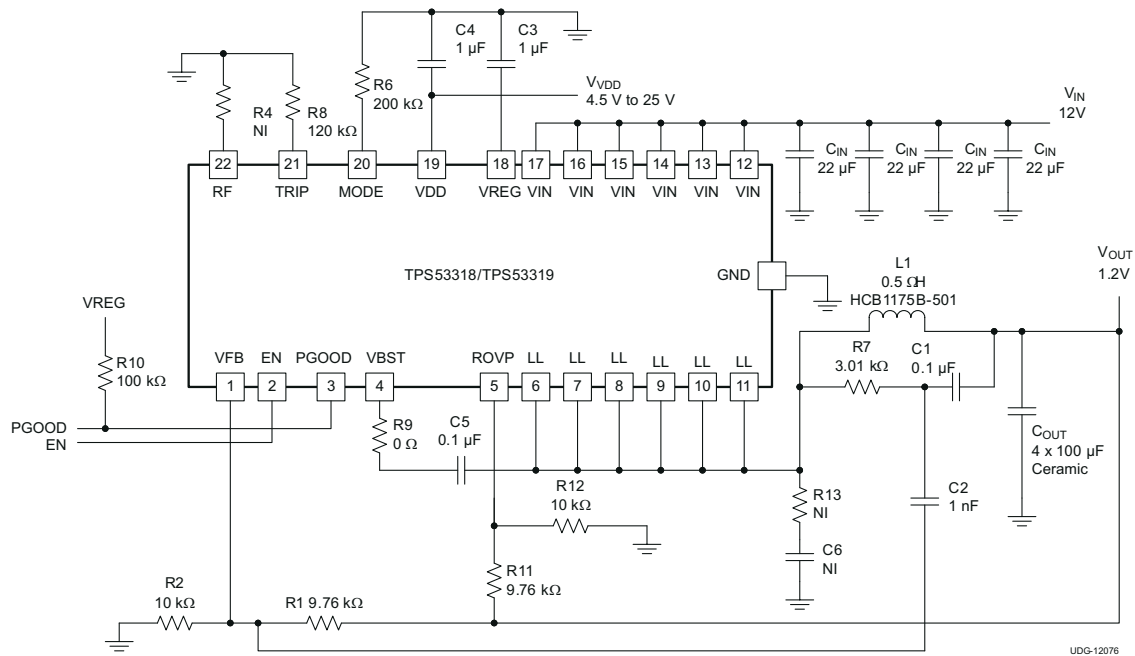

Figure 8-12. Typical Application Circuit, Redundant OVP Enabled
The redundant overvoltage level is programmed according to the output voltage setting, it is controlled by resistors R11 and R12 as shown in Figure 8-12. Connect resistor R11 between the ROVP pin and the output, and connect resistor R12 between the ROVP pin and GND. This design recommends that the value of resistor R11 match the value of resistor R1 (or slightly higher), and that the value of resistor R2 match the value of resistor R12.
- Connect the ripple injection V_{OUT} signal (V_{OUT} side of the C1 capacitor in Figure 8-12) from the terminal of ceramic output capacitor. Place the AC coupling capacitor (C2 in Figure 8-12) near the device, and R7 and C1 can be placed near the power stage.